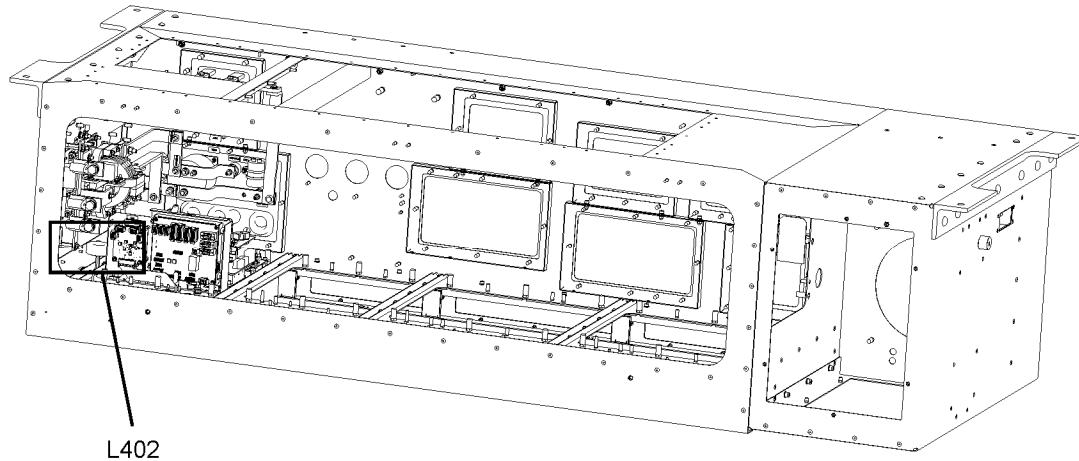

Figure 5-38: Location of L402
3. Locate L402. See Figure 5-38 for the location of the L402.